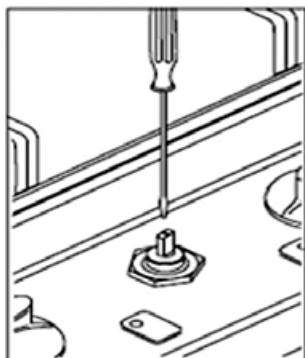

Fig. 4a
3. Adjust the flame size using a screwdriver. Depending on the model the adjusting screw is located in the control valve shaft or next to it (Fig. 4a, 4b).